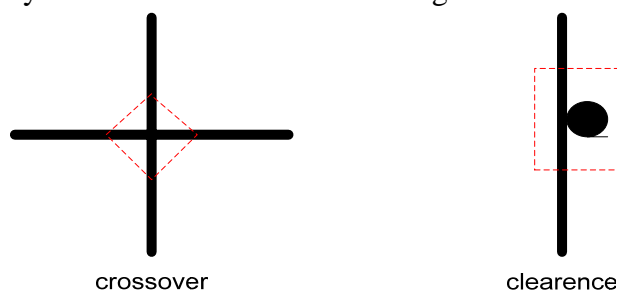

Fig.: 3 Difference between crossover and clearance conflicts
**Autoroute Tools:** During the first routing pass, the Autorouter allows conflicts to route every connection. After the first routing pass, the cost for creating these conflicts increases with each pass. So SPECCTRA reduce the conflicts automatically! The conflicts are shown in Fig.: 3.